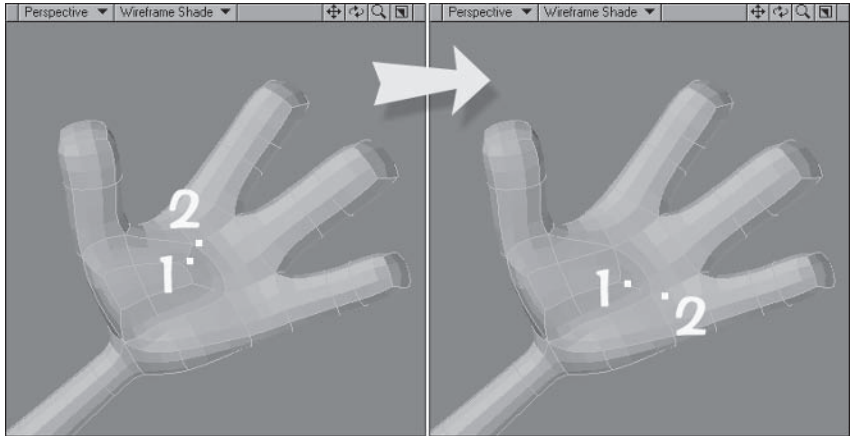

Figure 3.2-43. Welding these points creates a smooth transition into the upper part of the hand.
- 22. Select two of the points on a corner closest to the fingers, as shown in Figure 3.2-43, and **Weld**. Select the points of the other corner and **Weld**.